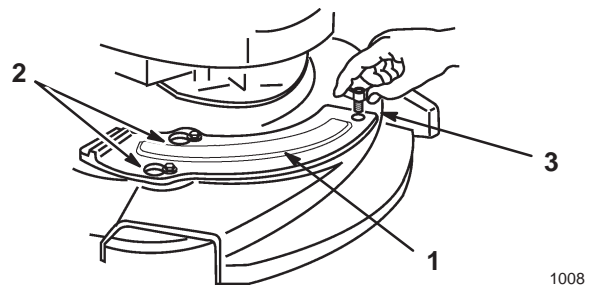

Figure 43
7. Slide the mulch plate over the shoulder bolts (Fig. 43).
9. Secure the mulch plate with the wing screw (Fig. 43).